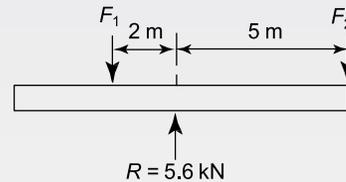

Figure RT2.1
8. Determine by resolution of forces the resultant of the following three coplanar forces acting at a point:  $120 \text{ N}$  acting at  $40^\circ$  to the horizontal;  $250 \text{ N}$  acting at  $145^\circ$  to the horizontal;  $300 \text{ N}$  acting at  $260^\circ$  to the horizontal. (8)
10. For the centrally supported uniform beam shown in Figure RT2.1, determine the values of forces  $F_1$  and  $F_2$  when the beam is in equilibrium. (7)